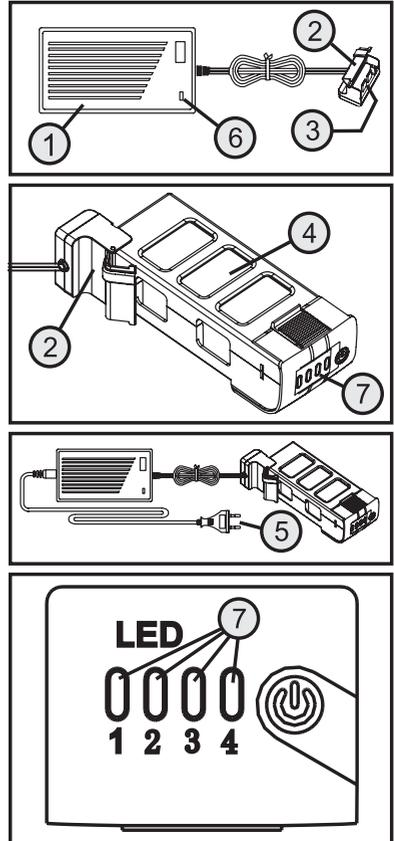

Figure 5
Connect the flight battery (4) to the charge adapter according to the two middle illustrations in figure 5.
The connection cable of the charge adapter is shown coiled for better illustration in the drawings in figure 5. Before the first charging process, however, you need to remove the cable tie and use the charge adapter cable in the uncoiled condition.